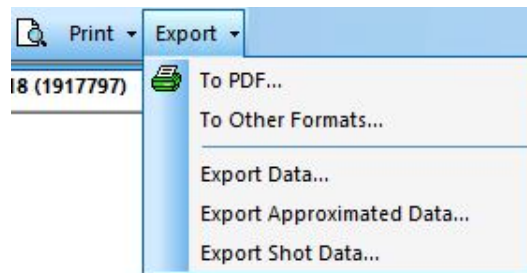

Figure 45. Export data to PDF using the Export tab.
1. To export data as a PDF, open the Export tab and select “To PDF” (as shown in Figure 45).
3. To export the data as a .txt file to use in Excel, open the export tab, and select “Export Data” (as shown in Figure 45).